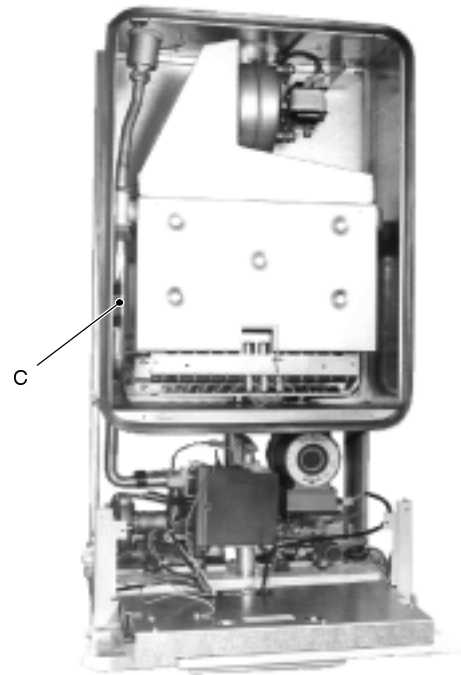

fig. 82
- the temperature probe C which is fitted on the outlet pipe of the main heat exchanger (fig. 82)
Verify the soundness of the fitting between the main circuit pipe and the temperature probe C (fig. 82).